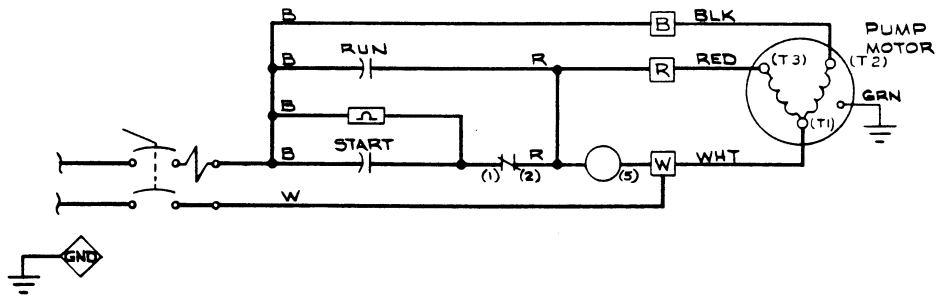
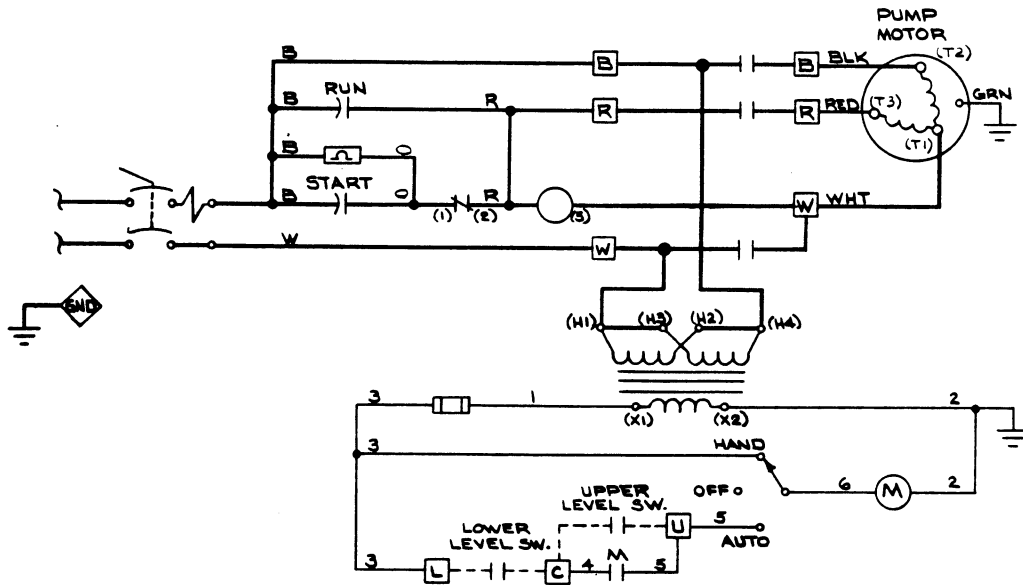
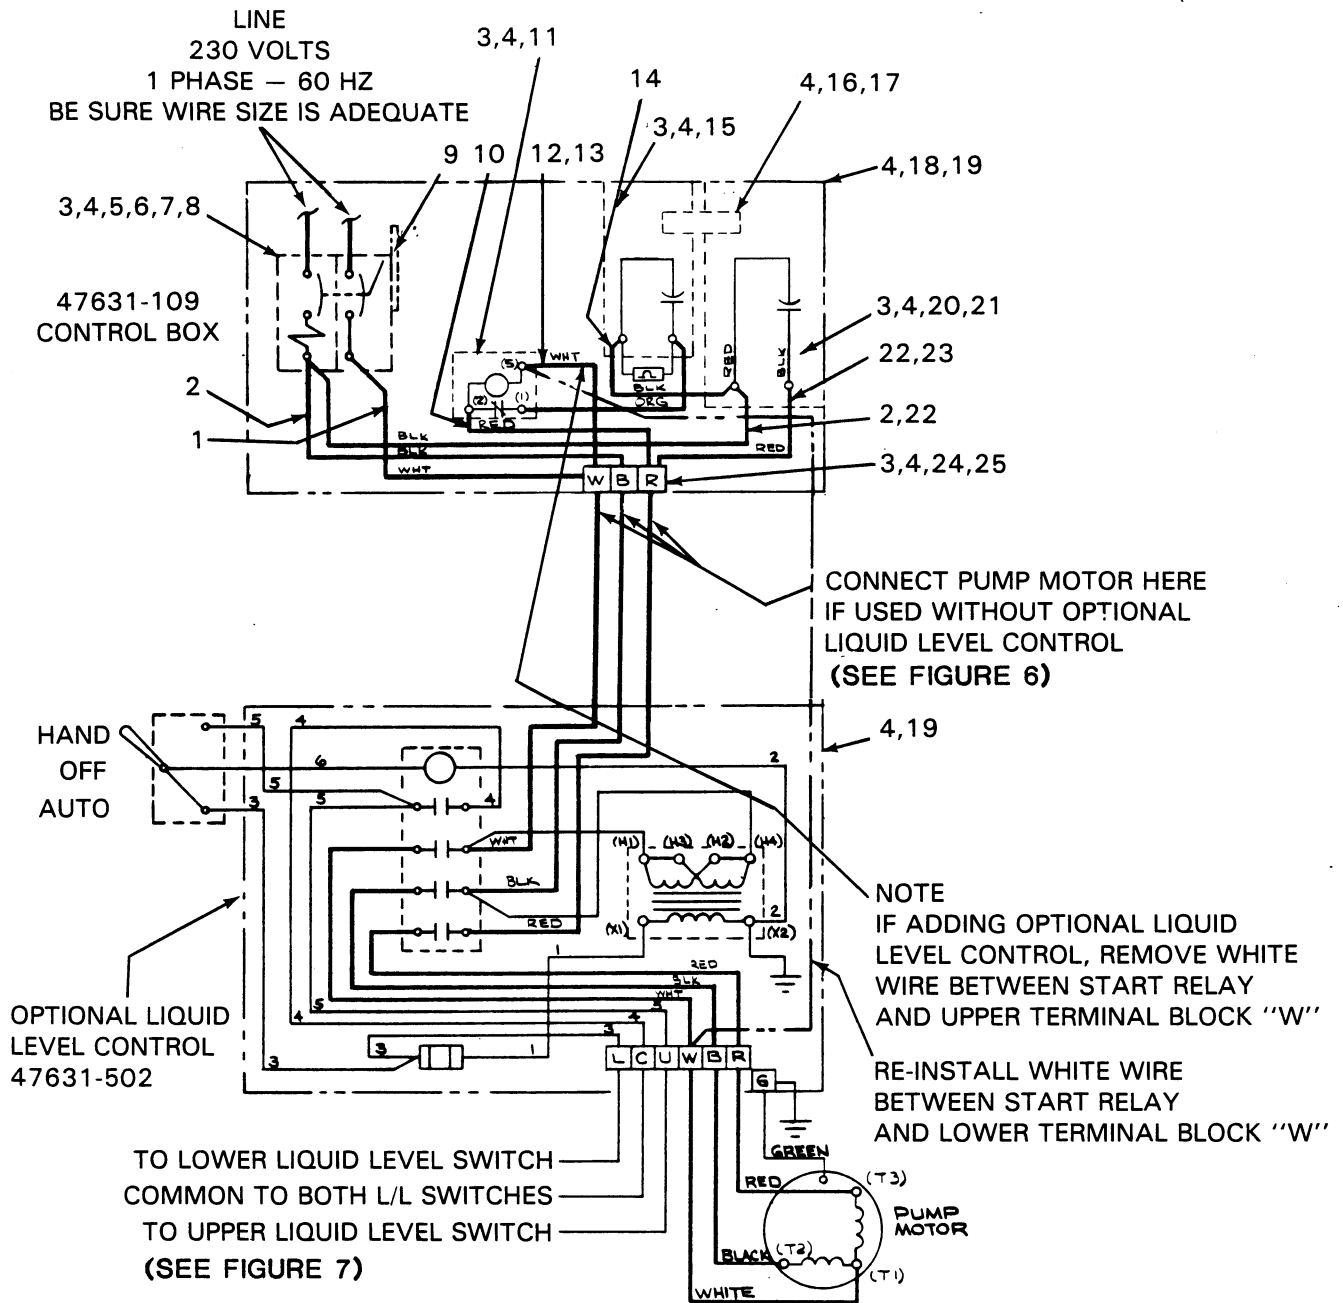

Figure 6. Elementary Wiring Diagram (Without Liquid Level Controls)
Figure 7. Elementary Wiring Diagram (With Liquid Level Controls)
Figure 8. 47631-109 Control Box Assembly - Pictorial Wiring Diagram
See Figure 8 on page B-15 for internal parts.
- a. Measure the incoming voltage across lines (1 & 2.) while the pump is **operating at full capacity**. See Figure 6 on page B-14 or Figure 8 on page B-15.
Connect the pump power cable to the control box as shown in Figure 6 on page B-14 or Figure 8 on page B-15. Use conduit or cable clamps to secure the power and
If liquid level controls are to be installed, connect the motor power cables and level control power cables as shown in Figure 7 and Figure 8 on page B-15.
See Figure 8 on page B-15 for a pictorial wiring diagram and callouts of the control box assembly internal parts.